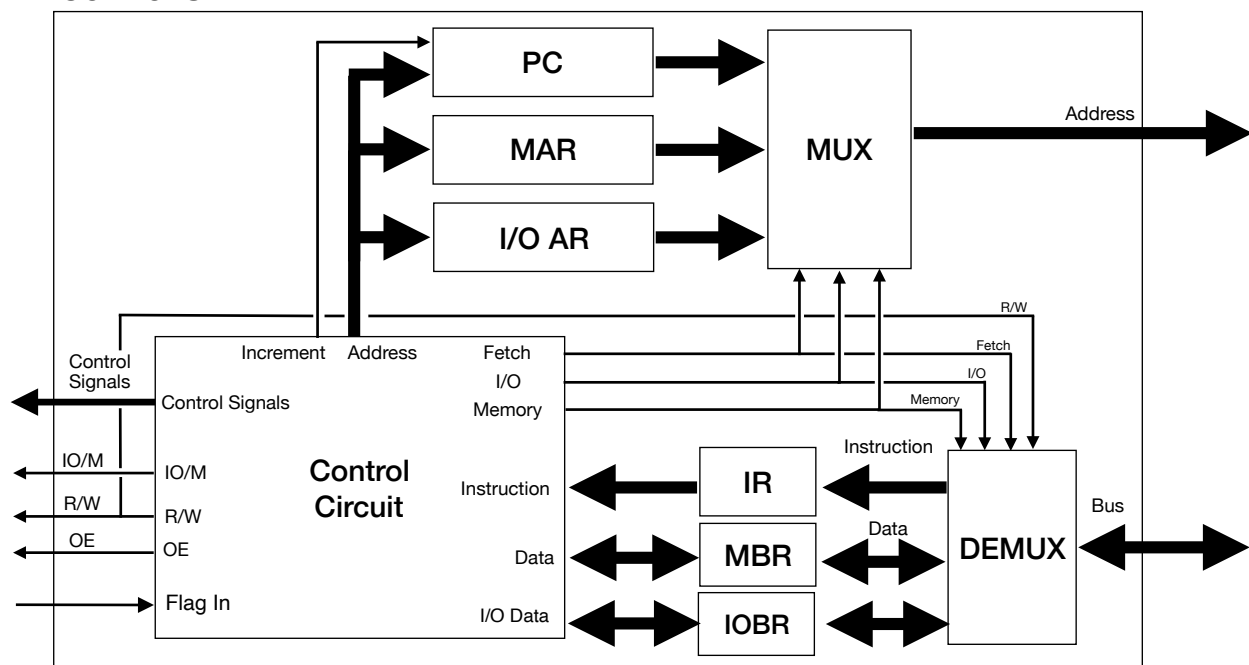

Figure 1. The Control Unit in Detail
1. Modify the Control Unit (CU) on the previous exercise to include the data bus (instruction and data), address bus, control bus (lines). Refer to Fig. 1 for the Control Unit architecture. The computer system architecture is on the appendix (Fig. 1).
Note that the “Fetch” signal is a local variable (see Fig. 1). You can include all operation during fetch cycle inside this condition.